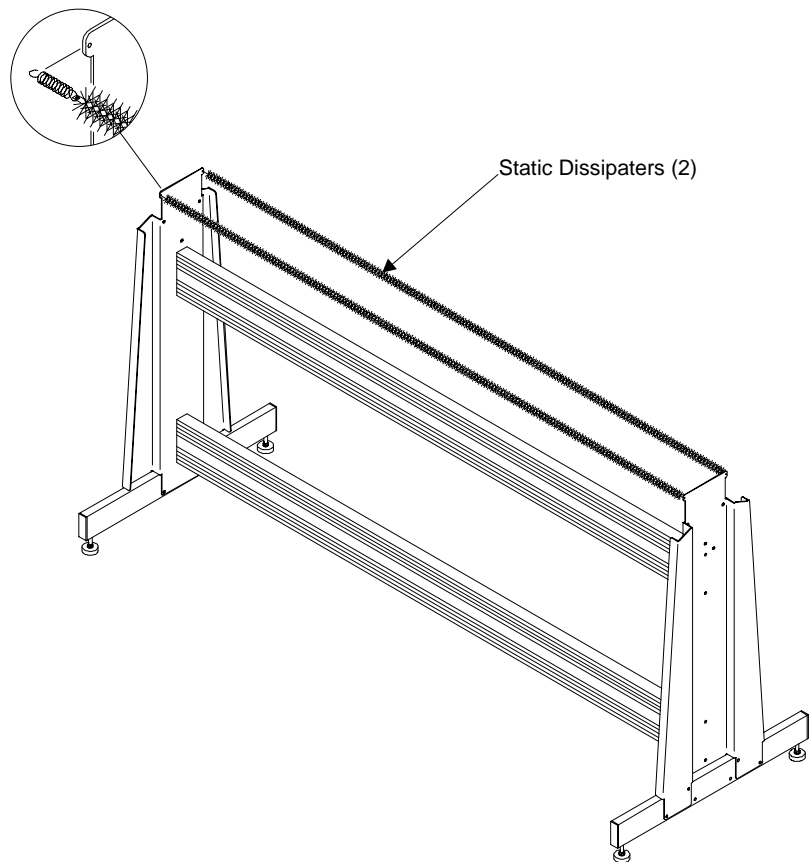

Figure 8. Attaching the Static Dissipaters
5. Attach the two static dissipaters to the stand. Place the hooks in each end of the static dissipaters through the holes in the stand legs. Refer to Figure 8.